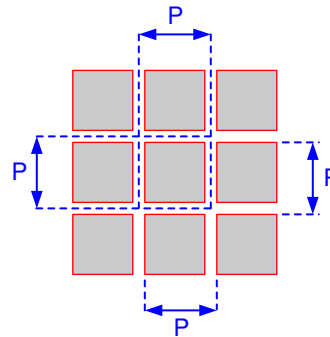

Figure 6-8. Micromirror Array Physical Characteristics
- (1) See Figure 6-8.
- (2) The structure and qualities of the border around the active array include a band of partially functional micromirrors called the “pond of micromirrors” (POM). These micromirrors are structurally and/or electrically prevented from tilting toward the bright or “on” state but still require an electrical bias to tilt toward “off.”
- (3) Out of the eight POM rows on the top and bottom, only the one POM row closest to the active array is electrically attached to that reset group. The other seven POM rows are attached to a dedicated POM internal reset driver circuit.